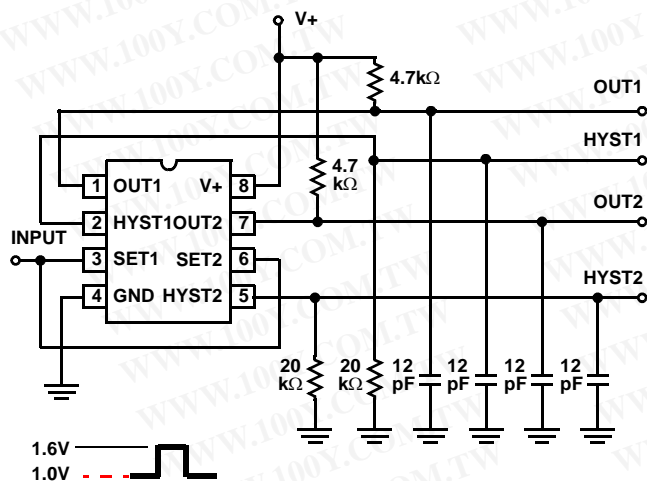

FIGURE 7. TEST CIRCUITS
**Electrical Specifications** The specifications below are applicable to both the ICL7665S and ICL7665SA.  $V_+ = 5V$ ,  $T_A = 25^\circ C$ , Test Circuit Figure 7. Unless Otherwise Specified **(Continued)**